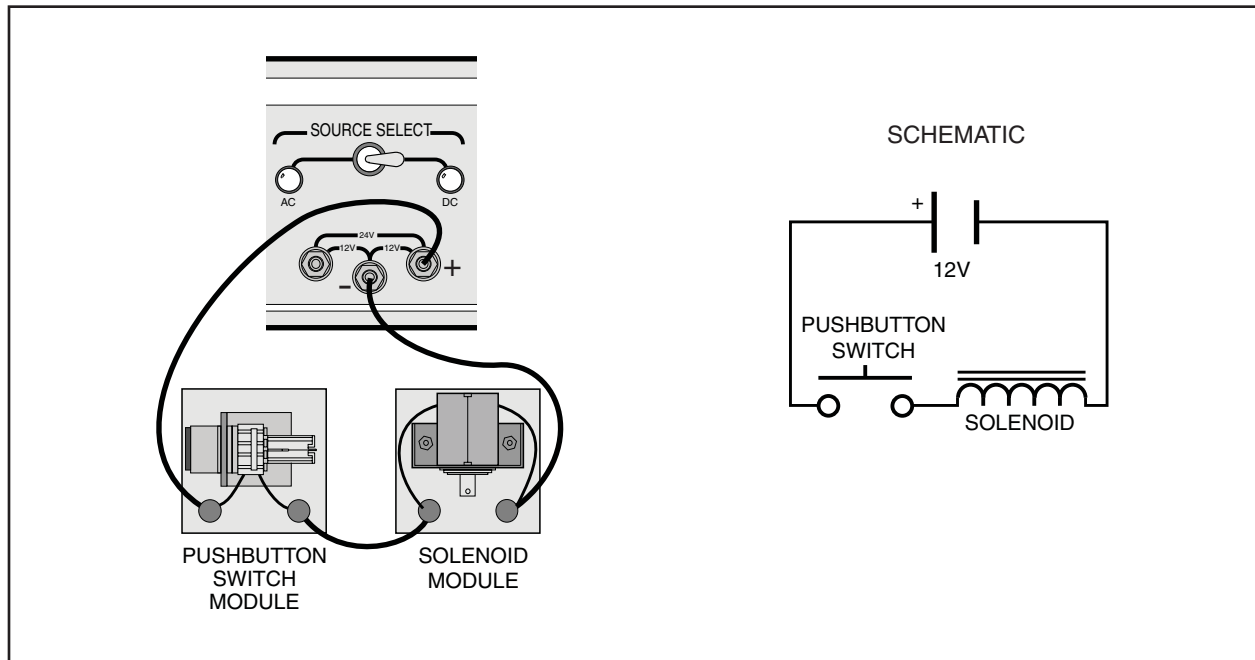

Figure 6-1. A Schematic Diagram and Pictorial of a Circuit with a Pushbutton Switch and a Solenoid
- 2. Connect the circuit shown in the schematic diagram in figure 6-1.